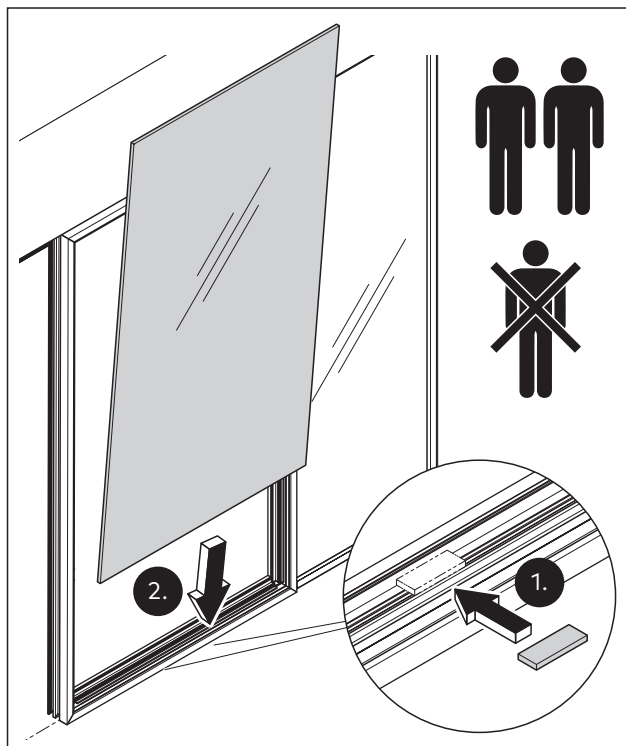

Fig. 33 Working in a pair, place the glass on the wooden blocks
- Prepare the lower wooden blocks as needed (Fig. 33).